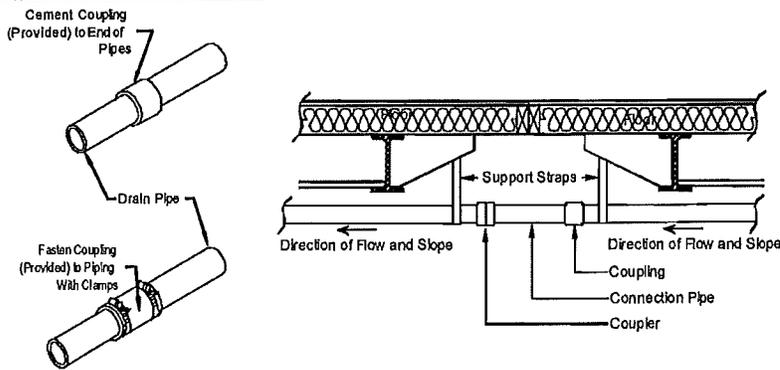
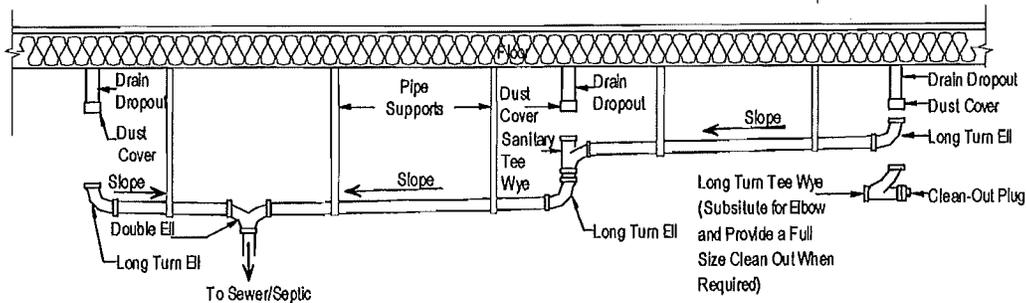

Figure 64. Drain crossover connection
Figure 65. DWV system
2. **Assemble pipes.** Using the drain schematic drawing provided with the home, begin assembling the DWV system starting at the location farthest from the sewer/septic connection and working towards the outlet, fastening the pipe with cement or adjustable screw-clamp connectors, if provided (Figure 64). As the system is assembled, support the piping with temporary blocking. Unless otherwise noted on the schematic diagram, provide a minimum 1/4 inch per foot slope towards the sewer/septic using a plumber's level. Where a slope of 1/4 inch per foot cannot be maintained, use a minimum slope of 1/8 inch per foot and install of a full-size clean-out at the uppermost point of the run (Figure 65).
5. **Install supports.** Install permanent drain line supports at a distance of four feet o.c. or less (see **Figure 64**, **Figure 65**, **Figure 66**, and **Figure 67**).